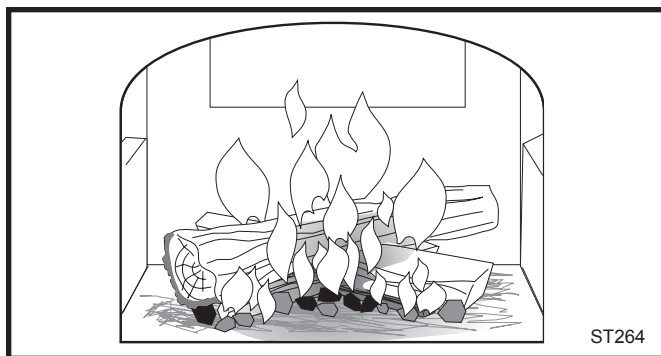

Fig. 23 Add larger pieces of wood as the fire begins to burn well.
4. **If your stove has been broken-in previously** using Steps 1-3, continue to build the fire gradually. Add larger wood with a diameter of 76-102 mm (3-4"), as in Figure 23.